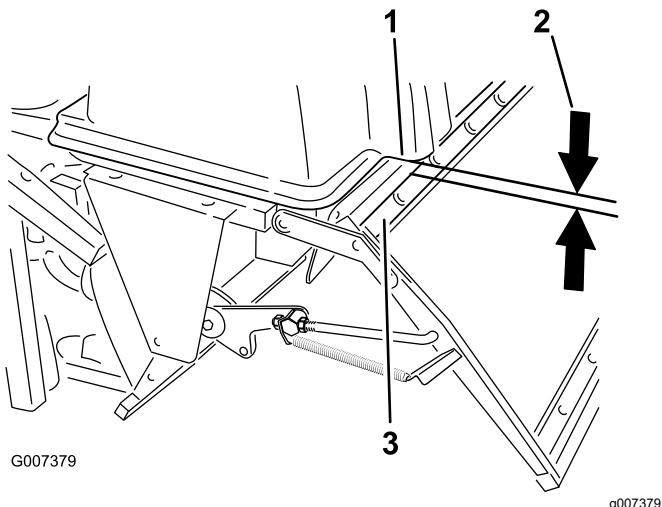

Figure 55
- Check the distance between the upper tube of the door frame and the lower lip of the molded hood (Figure 55).